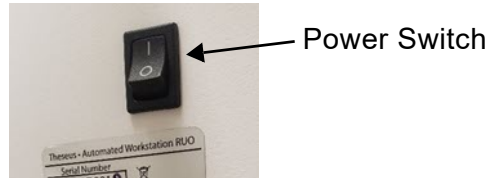

Figure 6. BioQule NGS Power Switch
- 6 Turn the BioQule instrument on by switching the ON/OFF switch (see Figure 6) on the back of the instrument to the ON position. The instrument initializes.